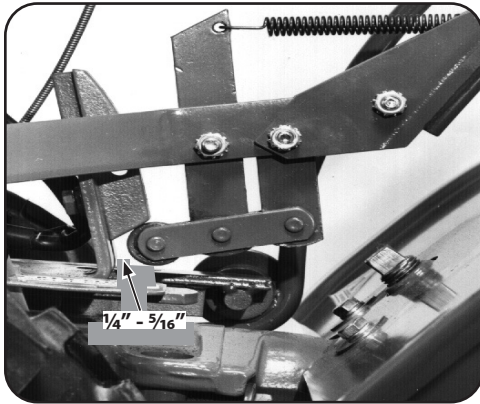

Figure 5-13
2. Move the Wheels/Tines/PTO Drive Lever fully down to the FORWARD position. The clutch roller at the bottom of the lever should be positioned underneath the belt adjustment block. See Figure 5-13. Don't let the clutch roller move during the next few steps. If it moves, you'll get a false belt tension reading.
3. The belt tension is correct if the front of the clutch roller is $1/4''$ - $5/16''$ away from the face of the upright bracket that holds the adjustment block in place. See Figure 5-13. To measure this distance: